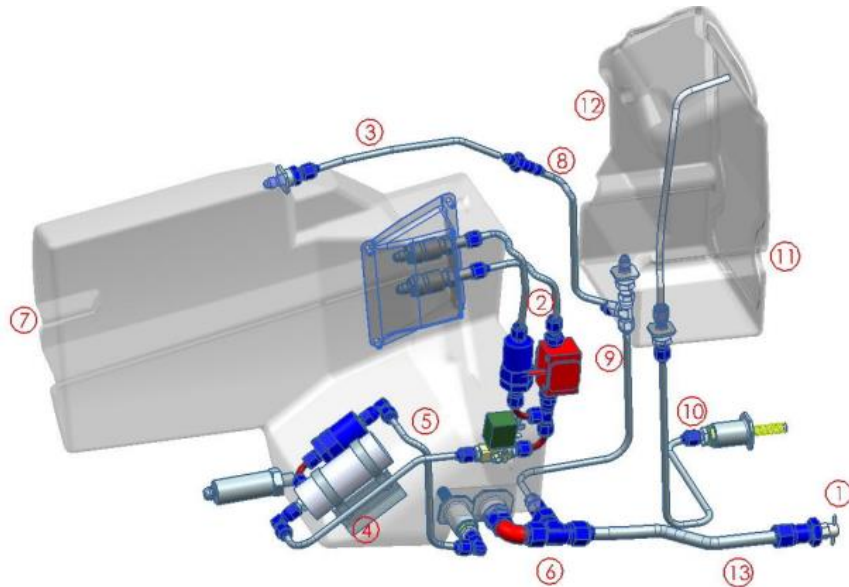

Figure 1: Removal of Fuel Tanks
2. Drain ALL fuel from the tanks by first pumping out the fuel using the defueling system installed in the jet box. To ensure all the remainder of the fuel is drained, open the fuel drain in the wheel box (no. 1 in Figure 1) and lift the tail of the glider into the flying position.
3. Remove the Fuel Line Attachment bracket by unscrewing the fuel lines at position 2 as shown in Figure 1.